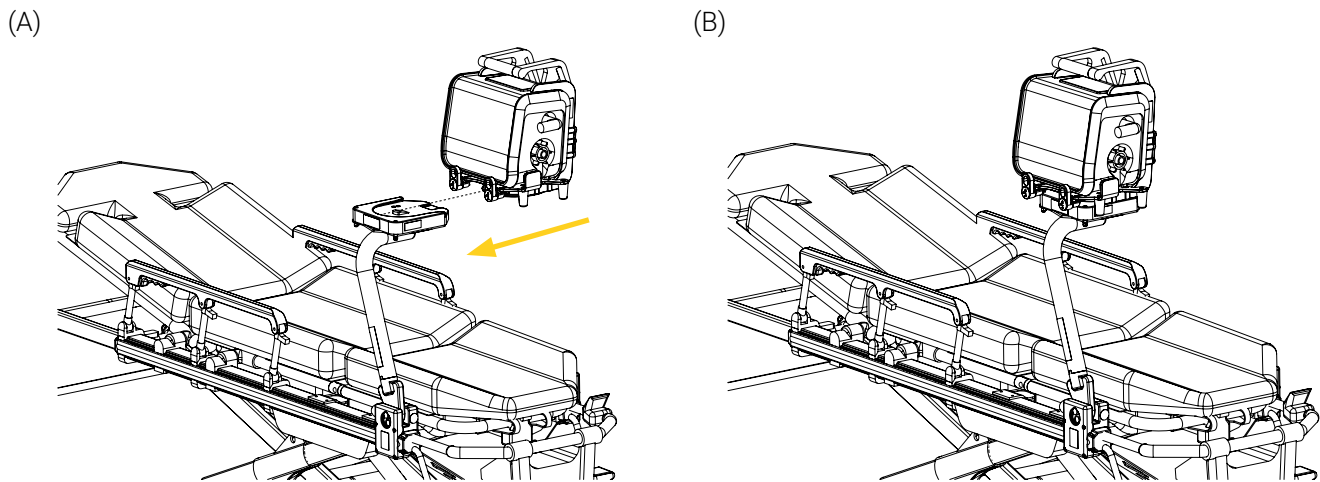

Figure 17: Installing the medical device in the SAS 500
2. Align and insert the standard bottom disc located under the medical device's mounting bracket in the SAS 500 horizontally until it locks (Figure 17).